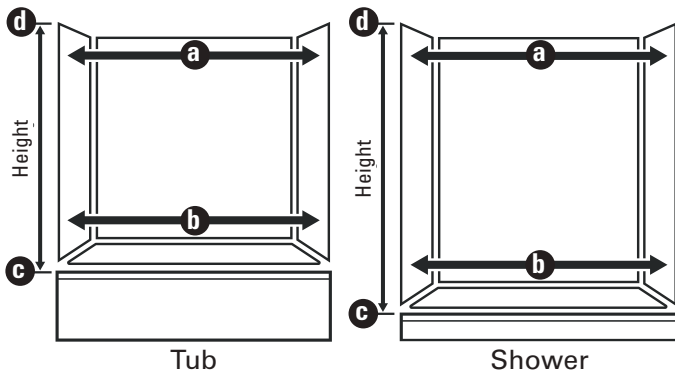

Figure 1
A. Before you remove the existing enclosure and all of its parts, check that your newly purchased enclosure is the correct size (See **Figure 1**).